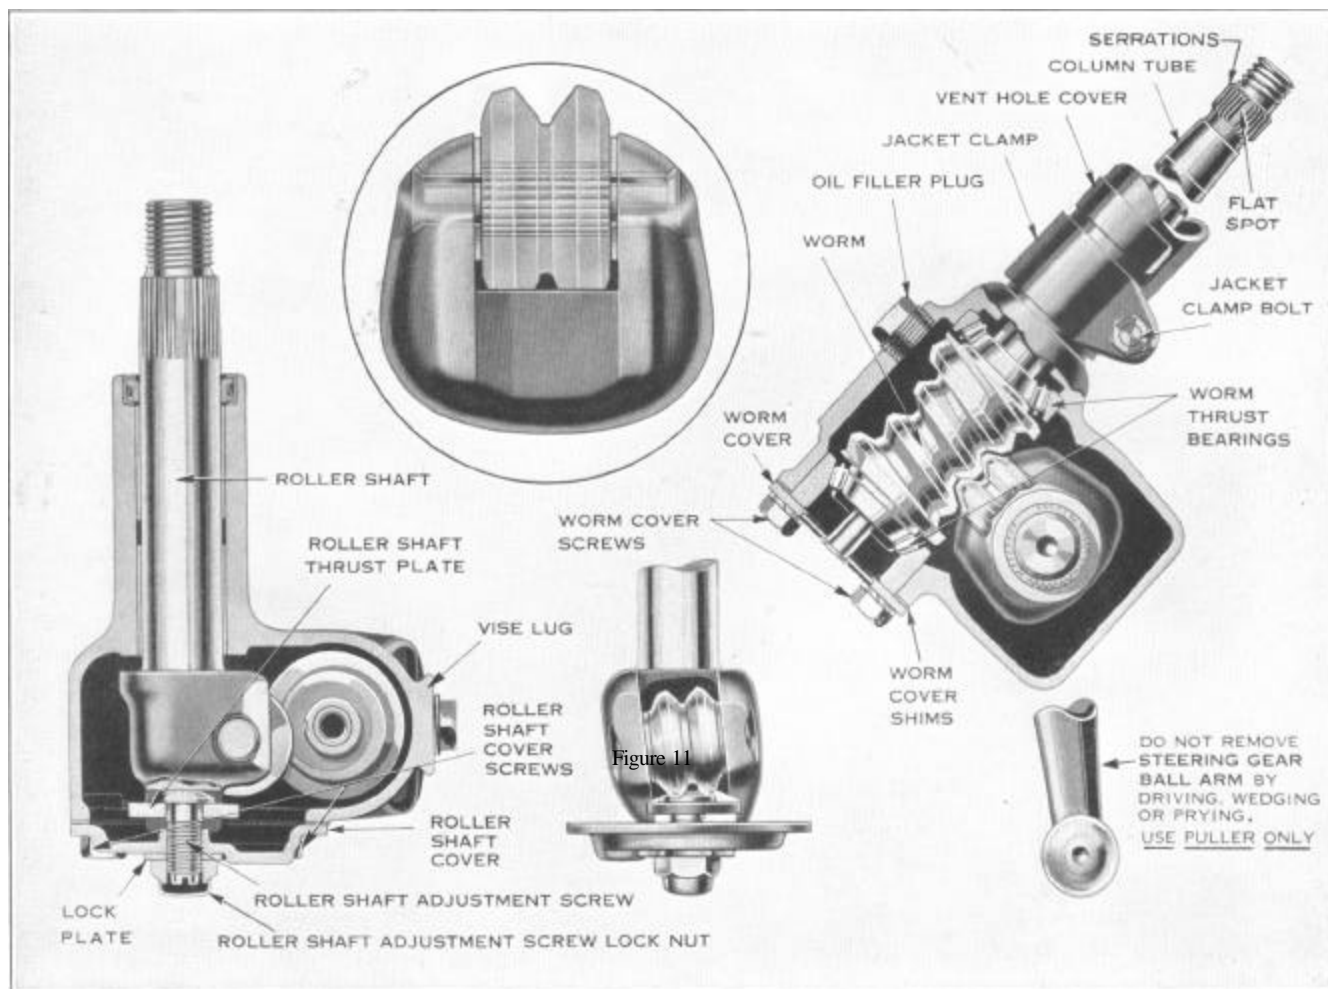

Figure 12
70. Remove 4 roller shaft cover screws, Figure 12.